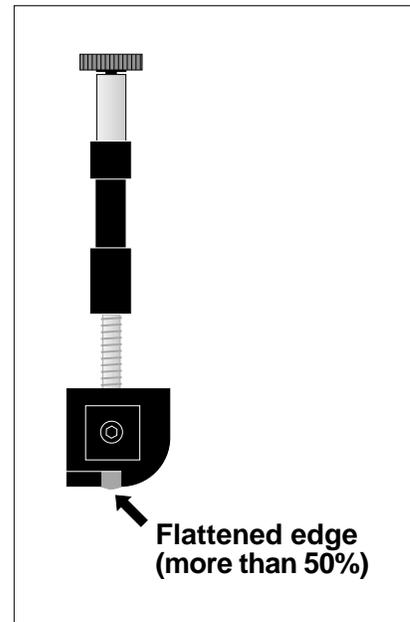

Figure 5-3. Bar Gate
- Bar Gate: Angled wedge begins to flatten excessively (Figure 5-3).